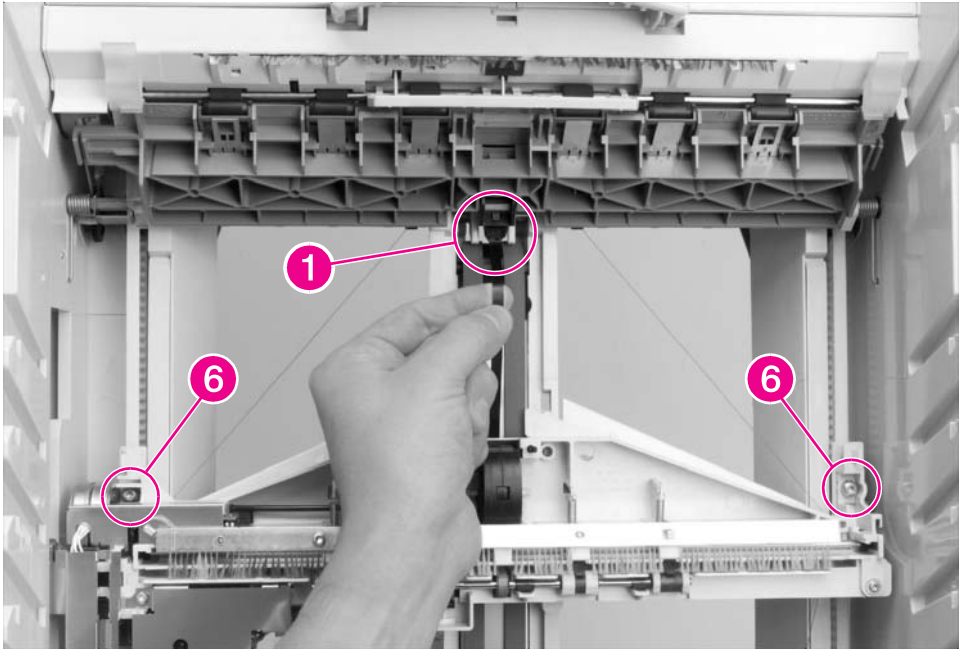

Figure 6-167 8-bin Mailbox Delivery Head Assembly (1 of 4)
- 4 Remove the Delivery Head Assembly from the 8-bin Mailbox frame (see Figure 6-167).
- 3 With the Delivery Head Assembly at the top of the 8-bin Mailbox, hold the Metal Tape near the end, and release the retainer tab that secures the end of the tape to the top of the 8-bin Mailbox frame (Figure 6-167, callout 1). Then let the tape slowly rewind into its housing.
- 8 Hold up the Delivery Head Assembly, and remove the 2 screws that secure it to the elevator mounts: 1 screw on each end of the assembly (Figure 6-167, callout 6). The screw that secures the back end is captive.